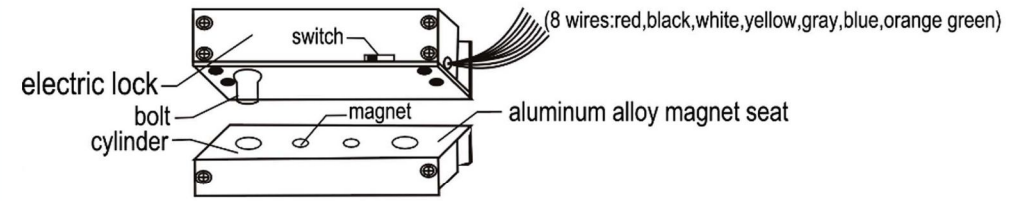

Figure 1
- 2.3. There are red,black,blue,white,yellow,gray,orange,green 8 wires (Figure 1). red connect to power positive,black conect to power negative. Blue,white,yellow are lock sensor output wires blue (NO),white(NOM),yellow(NC) (Figure 3). Gray,orange,green are door sensor output wires green(NO),gray(COM),orange(NC) (Figure 4).